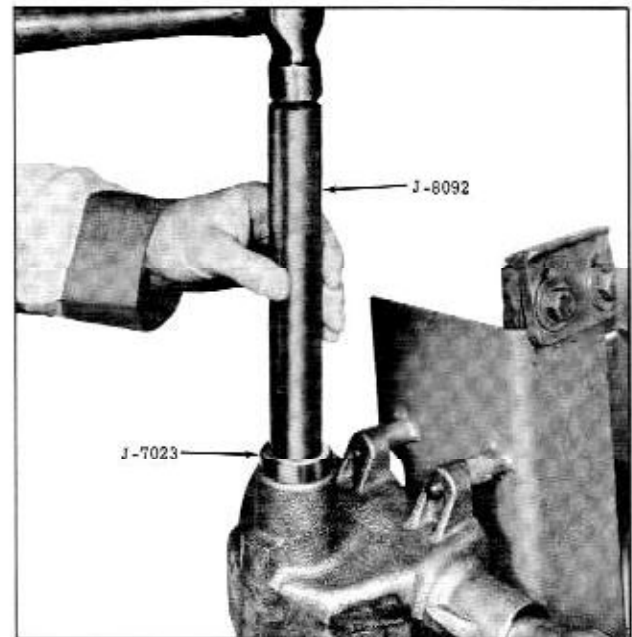

Fig. 4-15 Installing Pitman Shaft Seal
- using Tool J-7023. (Fig. 4-15) Coat lip of seal with seal lubricant, Part No. 567196.